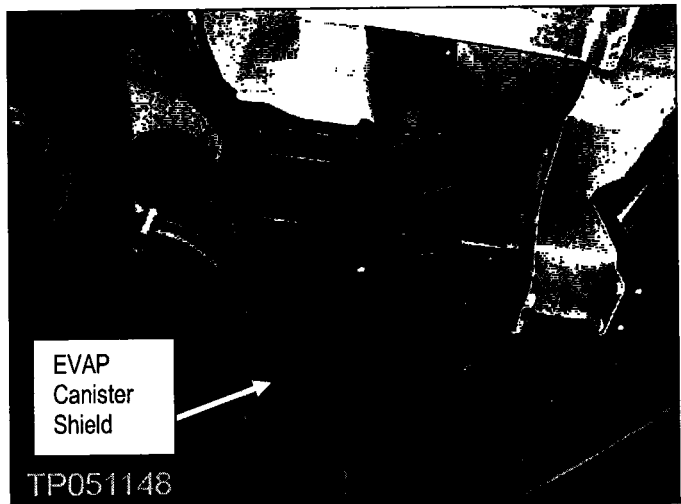

Figure 37
31. Remove three nuts and remove the evaporative canister shield (see Figure 37).